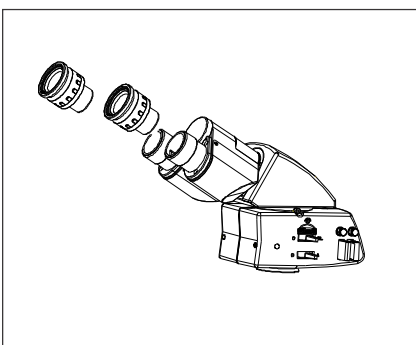

Fig.19
2. Insert eyepieces into the ocular sleeve for use (Fig. 19).